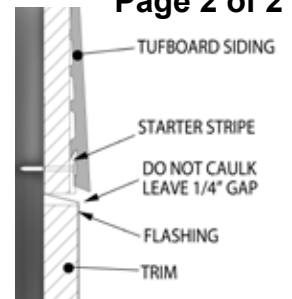

Fig. 17
- Maintain a 1/4" clearance between the SIDING and the horizontal joint that is above the flashing (see Fig. 17)